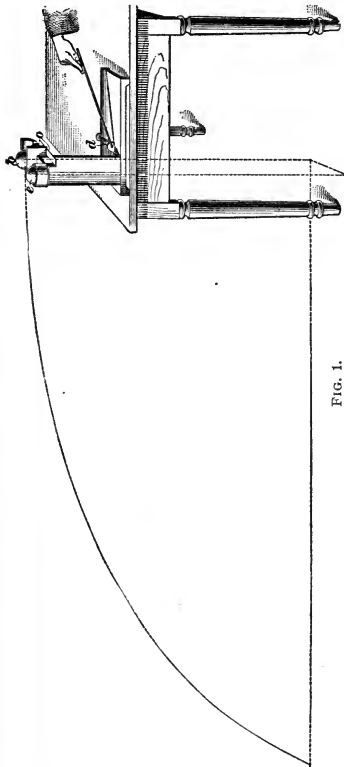

FIG. 1.
**50.** In Fig. 1 a ball *e* is supported in a cup, the bottom of which is attached to the lever *o* in such a manner that *o* will swing the bottom horizontally and allow the ball to drop. Another ball *b* rests in a horizontal groove that is provided with a slit in the bottom. A swing-